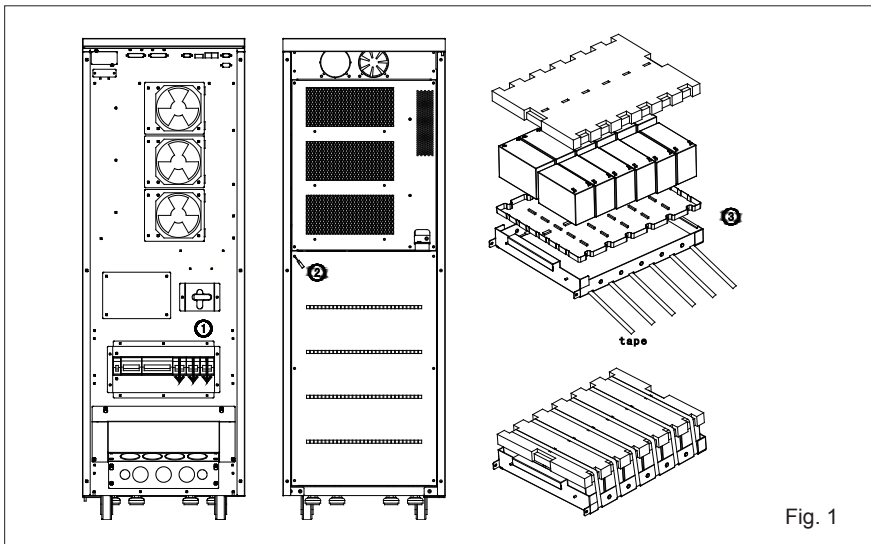
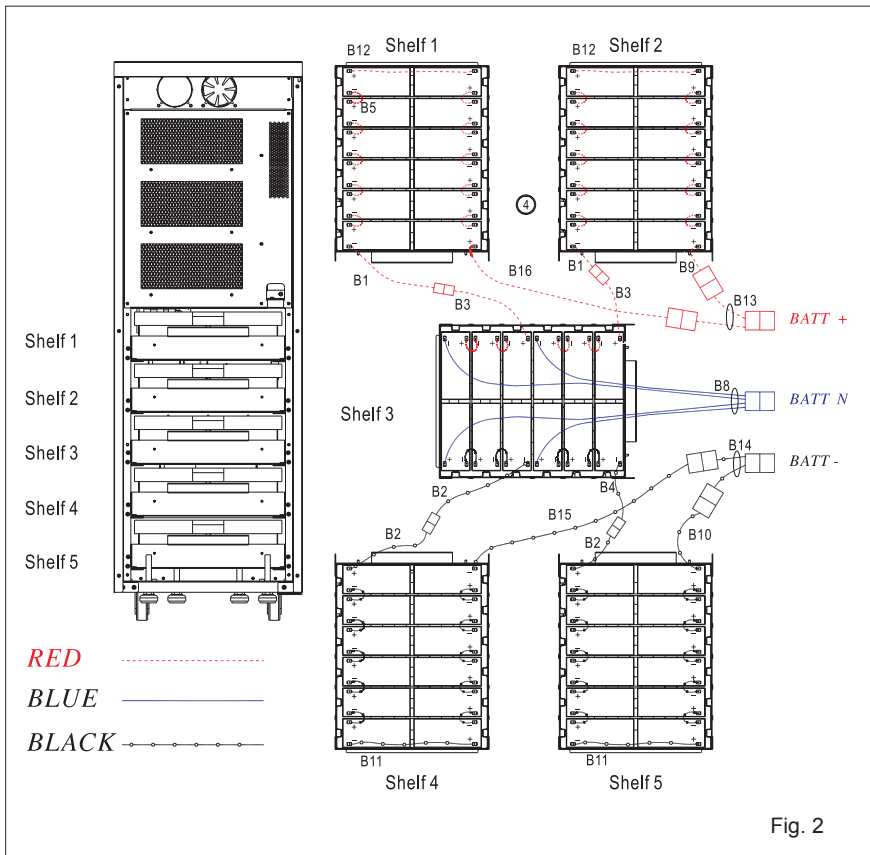

Fig. 1
Fig. 2
3. Put 12 batteries in every battery trays, total is 5 shelves(see Fig .1) .
4. Connect the cables to each shelf respectively (see Fig. 2).
5. Pack the battery trays and put them into the enclosure (see Fig. 1 & Fig. 2).